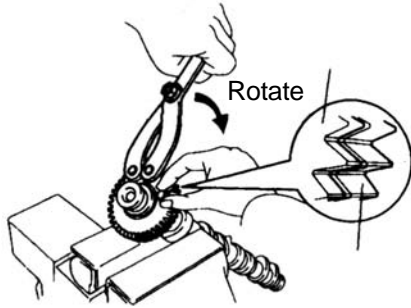

Figure 57
(1) Clamp the camshaft's hexagon on the vise.
(2) Turn the counter gear clockwise, Remove the service bolt.
(3) Remove the snap ring with a circlip pliers. See (Figure 57).